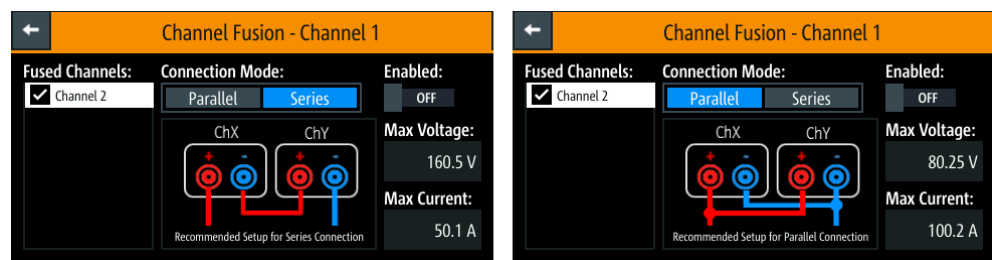
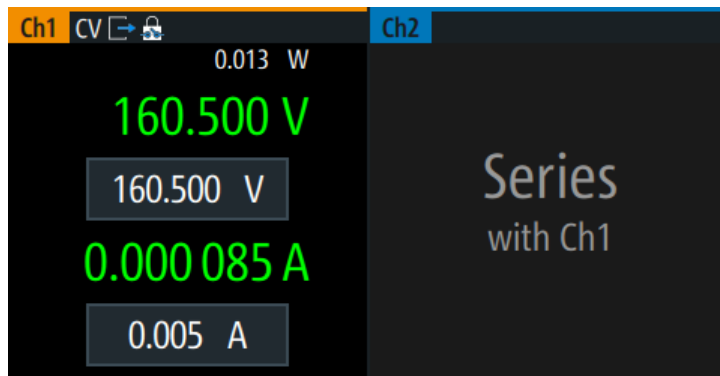
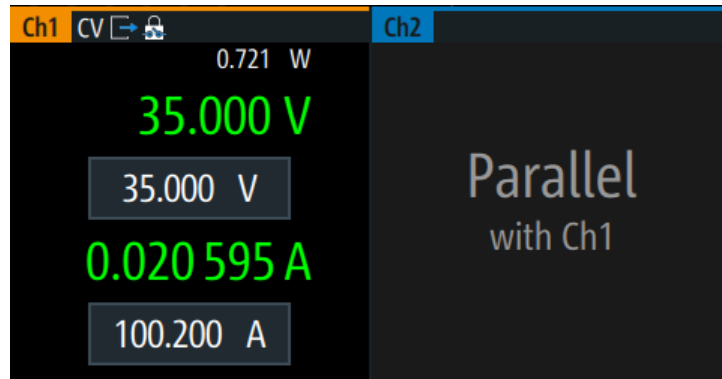

Figure 5-9: Channel fusion dialog for selected connection mode
Figure 5-11: Series mode setting with Ch2 selected as the fused channel
Figure 5-12: Parallel mode setting with Ch2 selected as the fused channel
- "Series" Connect the series setup as shown in Figure 5-9. After the series mode is enabled, a message "Series with Ch1" is displayed in the channel display area of the selected fused channel. See Figure 5-11. See also Section 13.1, "Series mode", on page 231.
Connect the parallel setup as shown in Figure 5-9. After the parallel mode is enabled, a message "Parallel with Ch1" is displayed in the channel display area of the selected fused channel. See Figure 5-12. See also Section 13.2, "Parallel mode", on page 232.